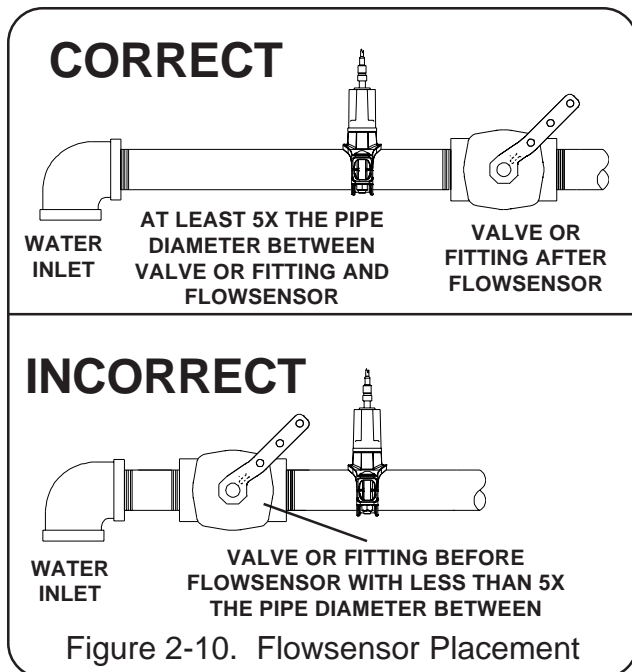

Figure 2-10. Flowsensor Placement
- a. A minimum **6 times the pipe diameter** of straight run pipe without any fittings is necessary prior to the flowsensor paddlewheel (see figure 2-10). Minimum required straight pipe run: